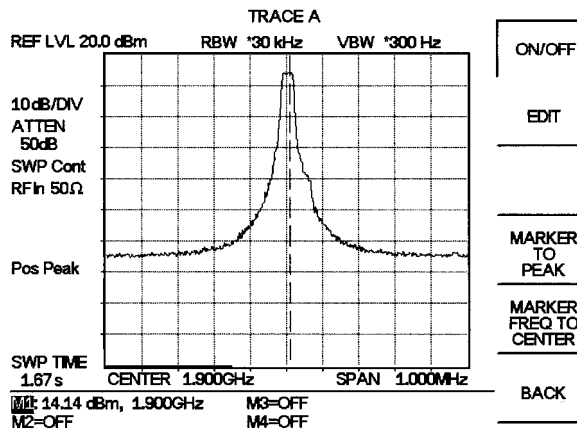

Figure 4-5. Measurement of Two Signals Having Unequal Amplitudes
Step 7. Change the resolution bandwidth to 30 kHz. Figure 4-5 shows the results after changing the RBW using a signal combiner/splitter with a loss of 6 dB.